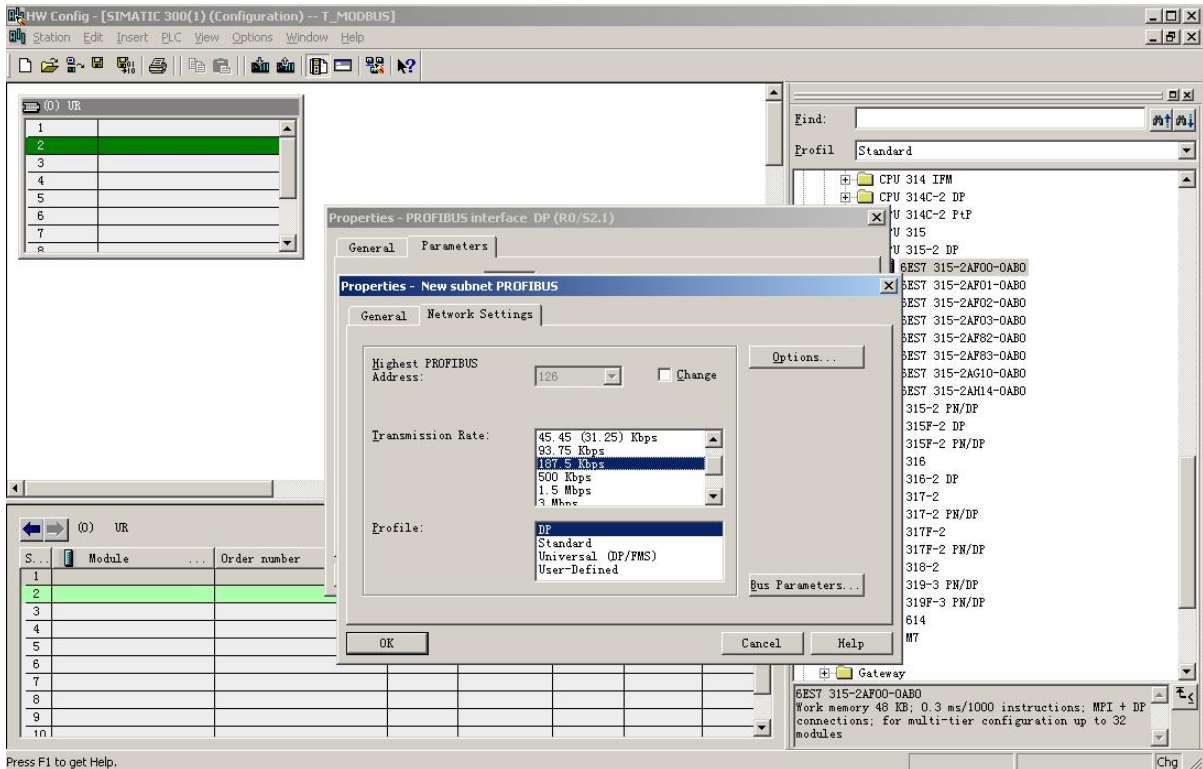

Figure 8
9. Create PROFIBUS DP network and set PROFIBUS DP: Click New and then Network settings, select DP; select a baud rate such as 187.5Kbps, then “OK”. Double-click it; Figure 8: